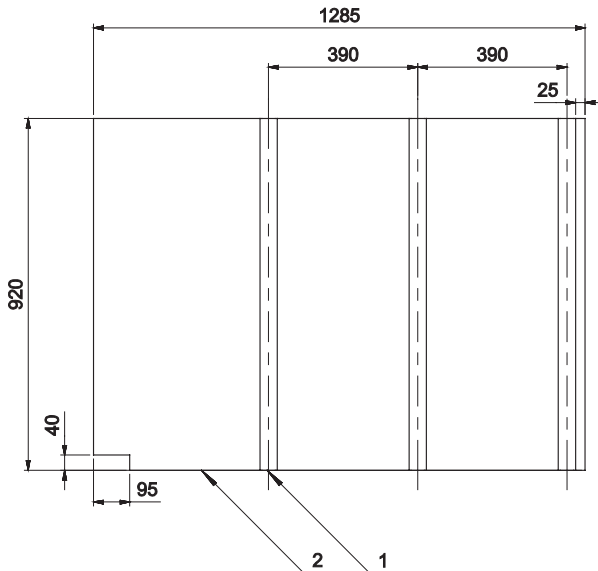

Figure 19. Dimensions for the concrete side board.
- 4.2. Cut twelve 70x45 timber ribs to 920 mm in length and four pieces of 18 mm Formwork Plywood, complying with EN 636-3, to the format 1285x920 mm and cut out a notch in one corner as shown in Figure 19. Make four similar side board units according to these instructions, and then fix the ribs to the boards with wood screws as in Figure 19.